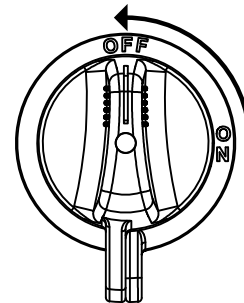

Figure 79. Battery Switch (OFF)
7. Wait at least two minutes to allow the DEF system to purge, then place the **Battery** switch (Figure 79) in the **OFF** position.